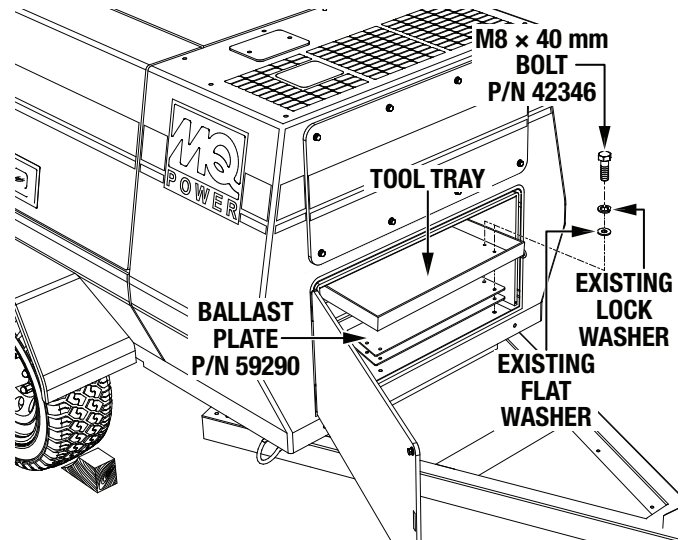

Figure 36. Ballast Plate Installation
3. If installing the single hose reel kit (P/N MQPSINGLEREEL50), place **two** ballast plates (P/N 59290) inside the storage compartment as shown in Figure 36. If installing the dual hose reel kit (P/N MQPDUALREEL50), place **three** ballast plates inside the storage compartment.
4. Place the tool tray on top of the ballast plates (P/N 59290), and secure the tray and plates to the inside of the storage compartment with the four M8 x 40 mm bolts (P/N 42346) and the four lock washers and flat washers that were removed earlier. See Figure 36.